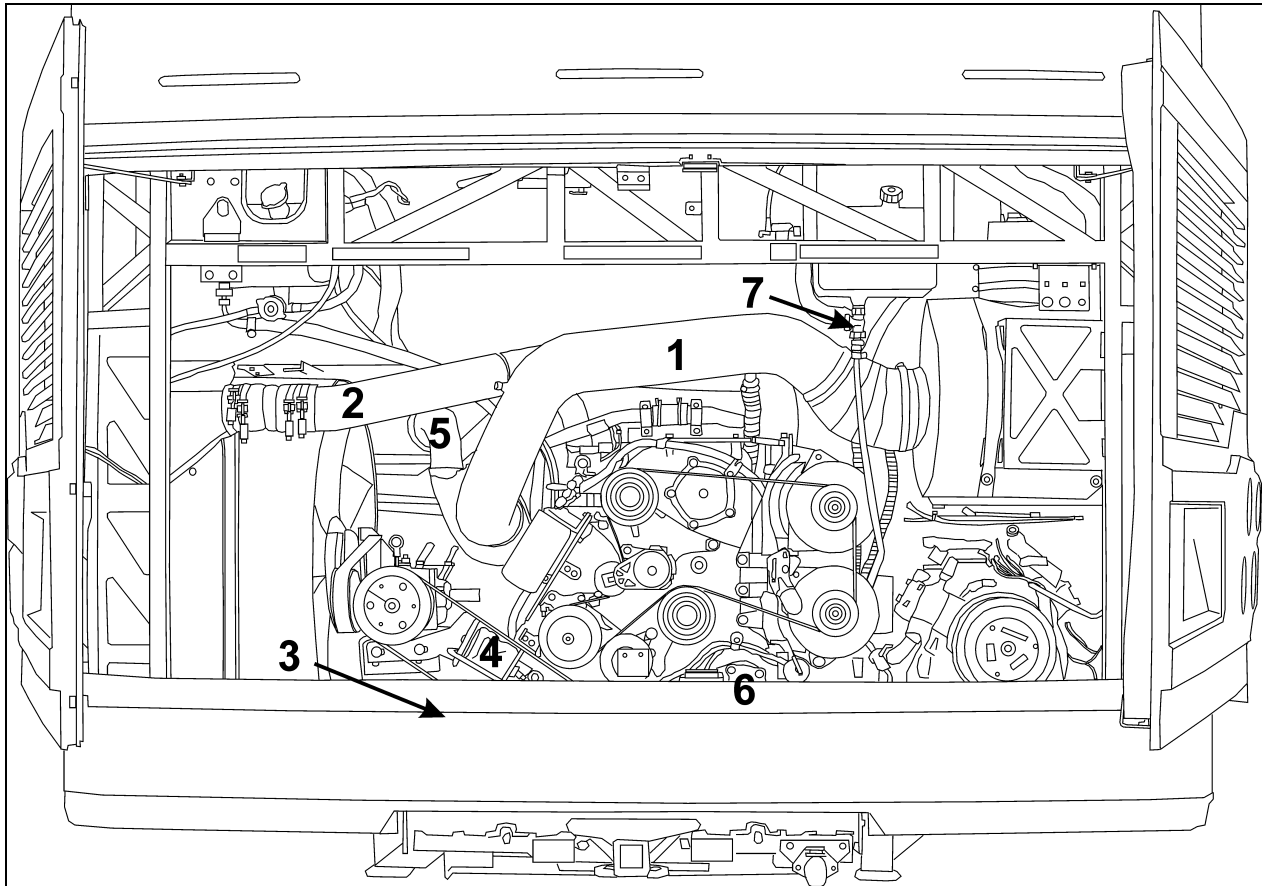

FIGURE 16: ENGINE COMPARTMENT X3 COACHES (TYPICAL)
6. Disconnect and remove the engine-air intake duct mounted between air cleaner housing and turbocharger inlet (1, Fig.16).
7. Disconnect and remove the air intake duct mounted between the air cooler outlet and the engine intake (2, Fig.16).
8. Disconnect and remove section of coolant pipe assembly mounted between the radiator outlet and the water pump inlet (3, Fig.16).
10. Disconnect the electric fan-clutch connector located near the gearbox (Fig. 16).
11. Dismantle the air bellows from the upper bracket of the fan-drive assembly tensioner. Remove the upper bracket (4, Fig. 16).
13. Disconnect and remove the air intake duct mounted between the turbocharger outlet and the air cooler inlet (5, Fig. 16).
20. Disconnect the power steering pump supply and discharge hoses. Cap hose openings immediately to limit fluid loss. Remove retaining clips from cradle (6, Fig. 16).
21. Disconnect the oil delivery hose from the valve located at the reserve tank drain (7, Fig. 16).